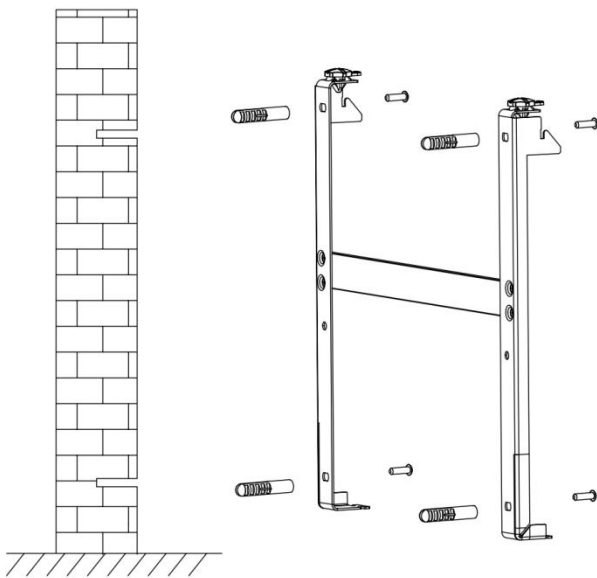

Fig. 3
4. Place the anchors into the drilled holes, then fix the H shape bracket on the wall by the 4 screws. Fig 3